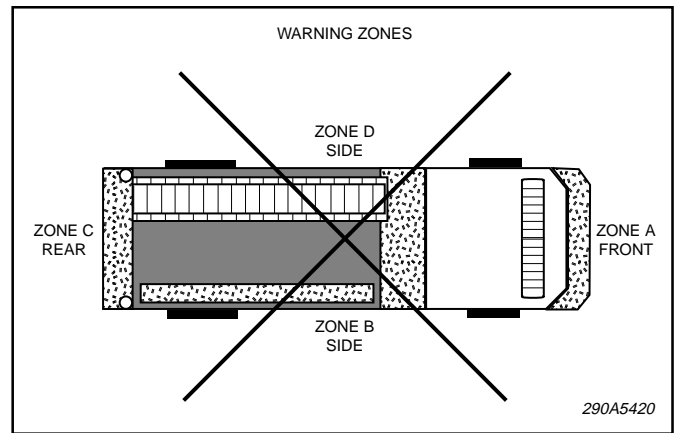

Figure 3.
2. NFPA 1901 Application - Zone Control. See figure 3.